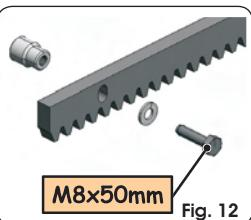
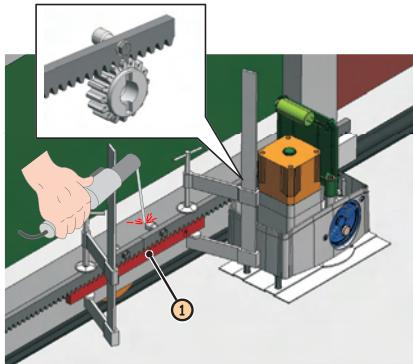

Fig. 12
Fig. 14
- Fit another rack element next to the previous one, using a piece of rack, as shown in Fig. 14 ref. ①, to synchronise the teeth of the two elements.
5.4.2. STEEL RACK TO BE SCREWED (FIG. 12)
- Manually move the gate, checking if the rack is resting on the pinion and repeat the operations in point ③.